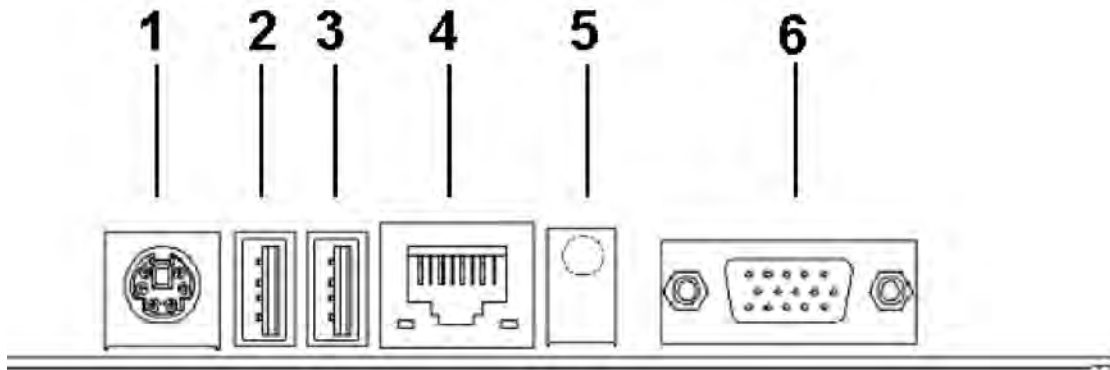

Figure 3-14: 3301540 CPU Board Rear Panel
Figure 3-14 shows the 3301540 CPU board rear panel. The peripheral connectors on the back panel can be connected to devices externally when the CPU card is installed in a chassis. The peripheral connectors on the rear panel are:
CN Location: See Figure 3-14 (labeled number 1)
- CN Location:** See Figure 3-14 (labeled number 2 and 3)
- CN Location:** See Figure 3-14 (labeled number 4)
CN Location: See Figure 3-14 (labeled number 7)